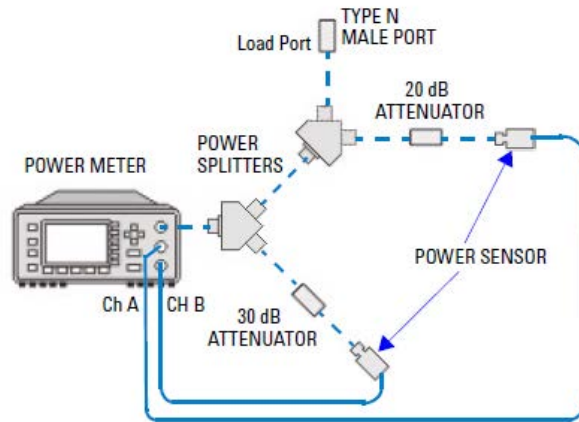

Figure 3-3 System calibration connection diagram
- 2** Connect the Measurement System and the Calibration System to the power meter. Refer to Figure 3-3.